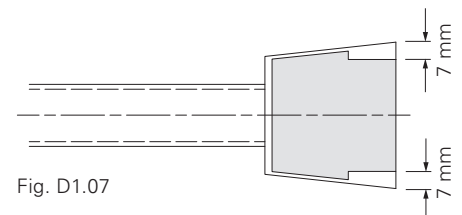

Fig. D1.07
- Sealing Compound, Item no. 108136. (Fig. D1.07)